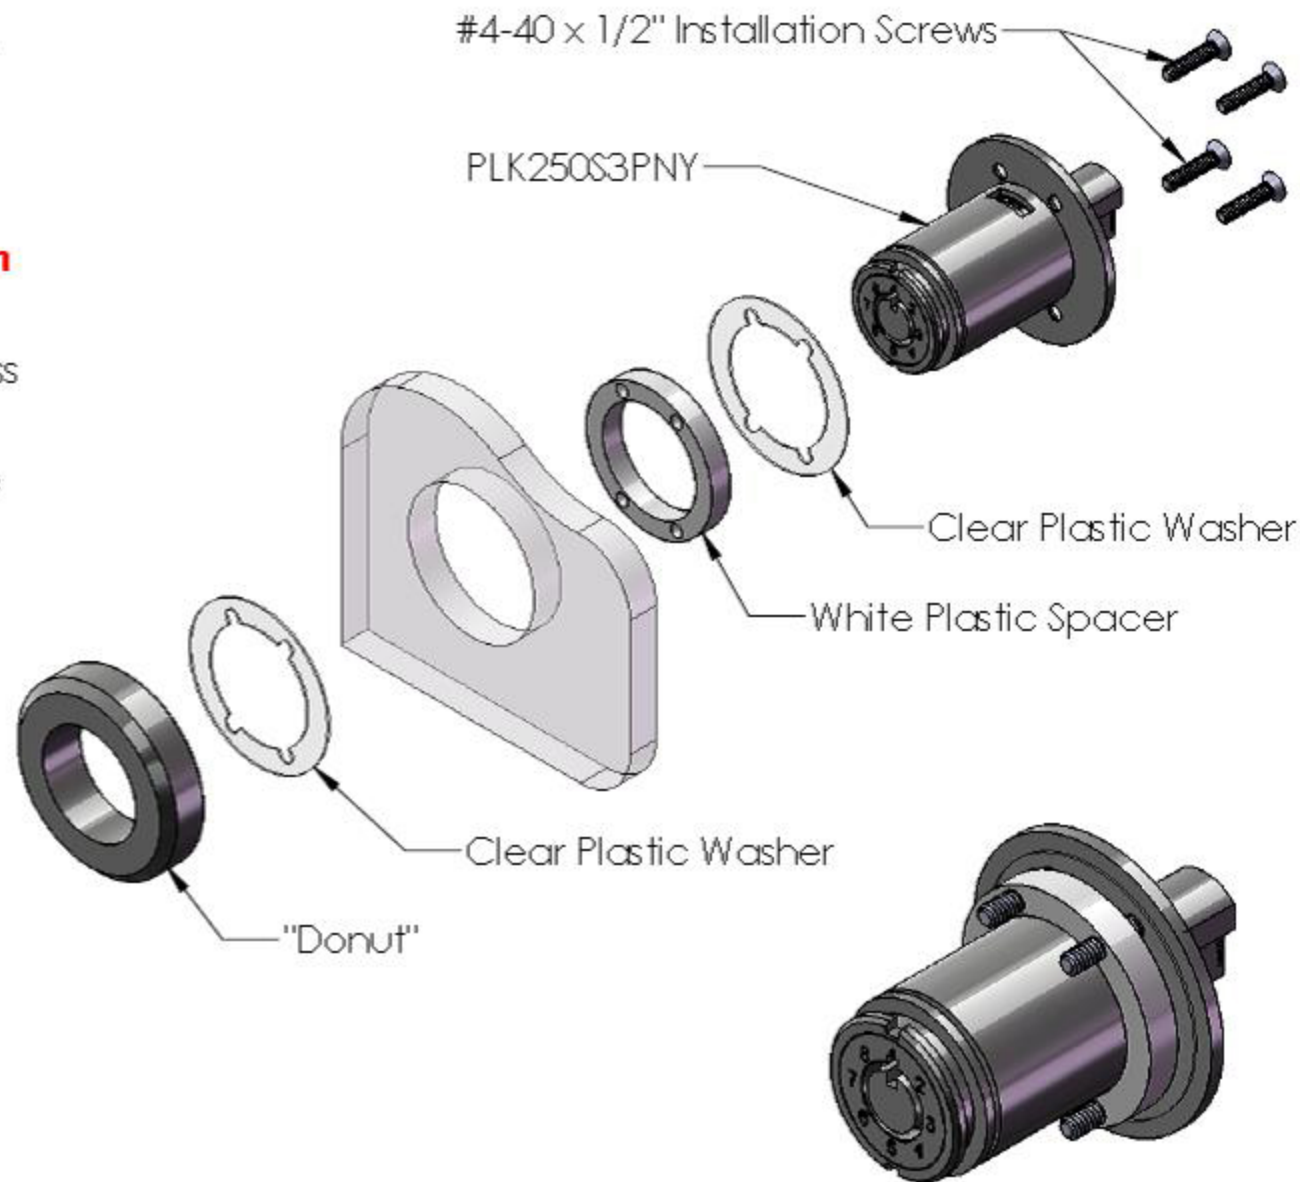

Figure 1: Step 1
1. Insert the (4) #4-40 screws into the lock flange.
3. Screw the white plastic spacer onto the 4 screws. **NOTE! The holes on the white spacer are very tight so pre thread them or lightly open them up with a drill to ease installation!** (See Fig. 1)